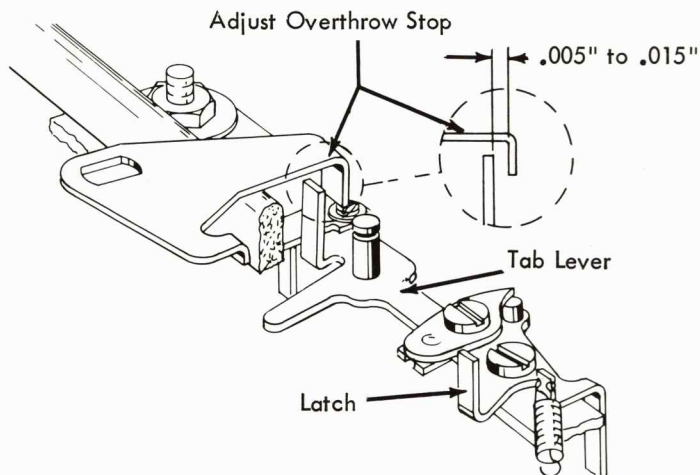

FIGURE 173.6. Tab Lever Overthrow Stop
9. Tab Lever Overthrow Stop (Early) (Fig. 173.6) - Adjust forward or back so that .005" to .015" clearance exists between the lug of the tab lever and the overthrow stop when the tab lever is latched to the rear.